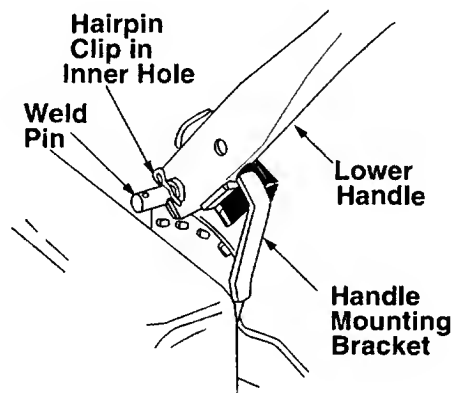

Figure 4
- Using a pair of pliers, squeeze one leg of the lower handle against the handle mounting bracket. Insert the hairpin clip into the inner hole on the weld pin. See Figure 4. Repeat on other side.